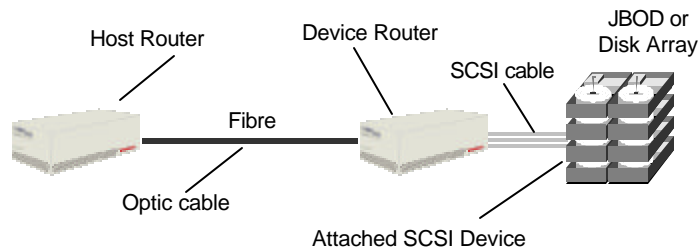

Figure 2-2. Example of Step Five Completed
4. At this point the host/server should not be attached, as shown below in Figure 2-2.